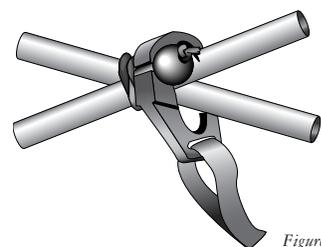
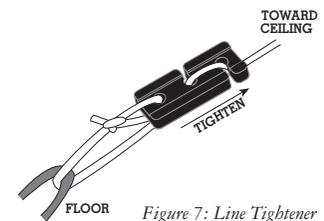

Figure 3: Clip-Loc
Figure 7: Line Tightener
Insert the metal tips of one of the main poles into the grommets at points A & F and the tips of a second pole into the grommets at points B & E. Pull the two poles up so that they intersect towards the rear of the tent and hook the Clip-Loc over the widest angle of this intersection, point G (do not attach the bungee cord yet). Now attach the Swift Clips along the A-E, B-E axis, these are designated with orange webbing. Take the remaining long pole and insert the tips into the grommets at points C & D, and attach the Clip-Locs at points H & I. Now attach the remaining Swift Clips along the C-D axis, designated with the gray webbing. With the remaining pre-bent short pole insert the ends into the pole buckets at points J & K and attach the two Swift Clips along this pole axis. Now attach the bungee cord on the 3 Clip-Locs by wrapping the bungee in the direction crossing the open gate of the clip. Wrap the cord around the pole intersection 2 to 4 times, depending on desired firmness, then, slide the cord into the groove on the backside of the clip to keep it taut (Figure 3).
**Installation:** All attachments are made inside the tent. All that is needed are 4 pieces of guy cord of 72" lengths or longer (line tighteners may be used but are optional). Some of these items have been provided complimentary with your tent. You may also purchase a Sierra Designs Internal Guy Kit at your local retailer. The internal loops that will be used in this system are the six loops that are located in the corners of each stake points, A-F, as well as the four internal loops located at points H, I, L, & M (Figure 3). Start by attaching one end of the cord through the webbing loop in the floor at point A. Secure the other end of the cord at point I with a double half hitch or a line tightener (Figure 7). Repeat this procedure for lines between points B & H, C & L, E & H, F & I, & D & M. The Internal Guy System will partially obstruct the doorway. If you want to stow the cord out of the way when entering or exiting the tent, simply loosen the cord and pass it through the loop in the ceiling.